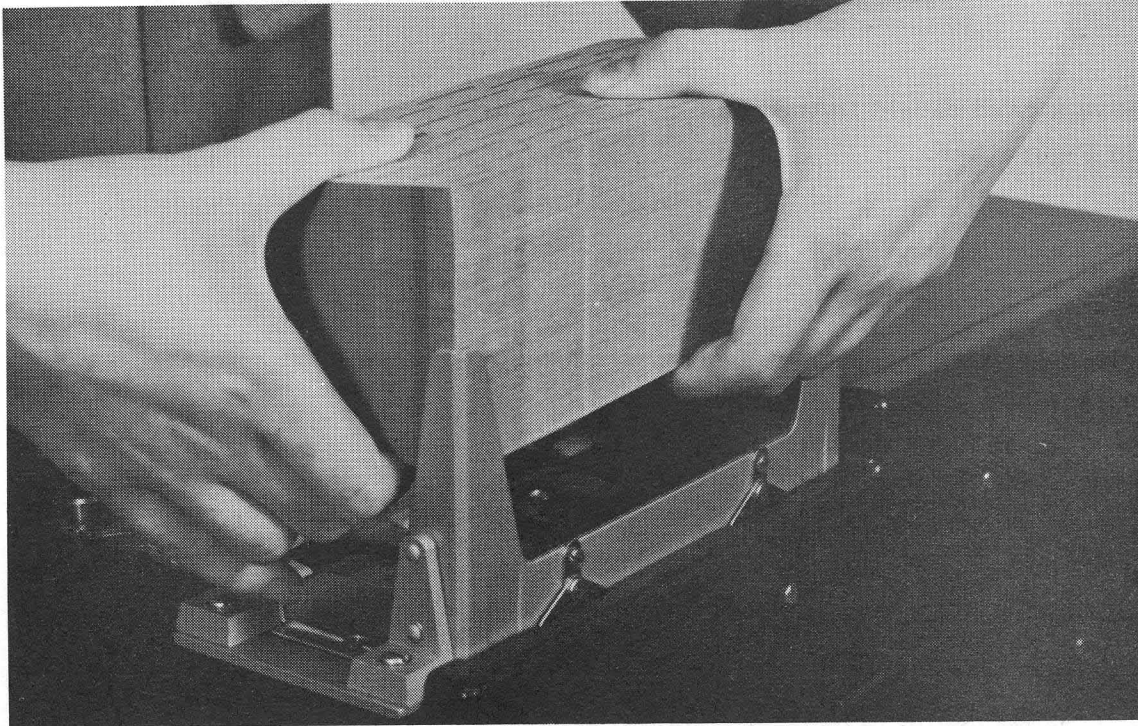

Figure A-5. Transferring Aligned Deck to Reader Hopper
2. Using both hands as shown in Figure A-5, transfer the squared deck to the reader hopper without destroying the alignment. The proper card position is face down with the nine edge (bottom) toward the rear of the reader.